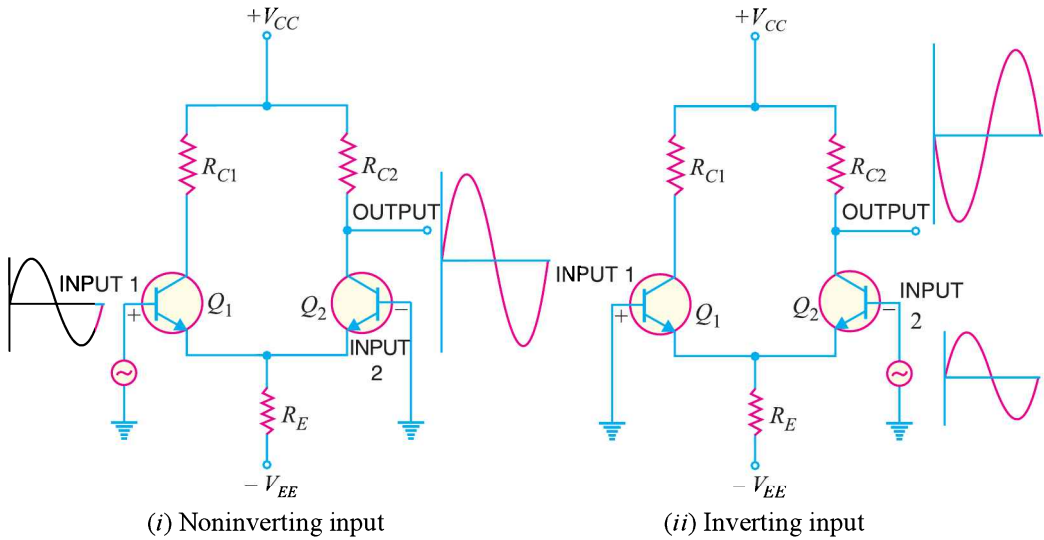

Fig. 25.7
- (b) When only one output terminal is available, the phase of the output of single-ended input DA depends on which input receives the input signal. This is illustrated in Fig. 25.7.
When signal applied to the input of DA produces no phase shift in the output, it is called *non-inverting input* [See Fig. 25.7 (i)]. In other words, for noninverting input, the output signal is in phase with the input signal. When the signal applied to the input of DA produces 180° phase shift, it is called *inverting input* [See Fig. 25.7 (ii)]. In other words, for inverting input, the output signal is 180° out of phase with the input signal. Since inverting input provides 180° phase shift, it is often identified with $-$ sign. The noninverting input is then represented by $+$ *sign. It may be noted that terms noninverting input and inverting input are meaningful when only one output terminal of DA is available.
* Note that in Fig. 25.7, the noninverting input terminal is given the +ve sign while the inverting input terminal is given the -ve sign.